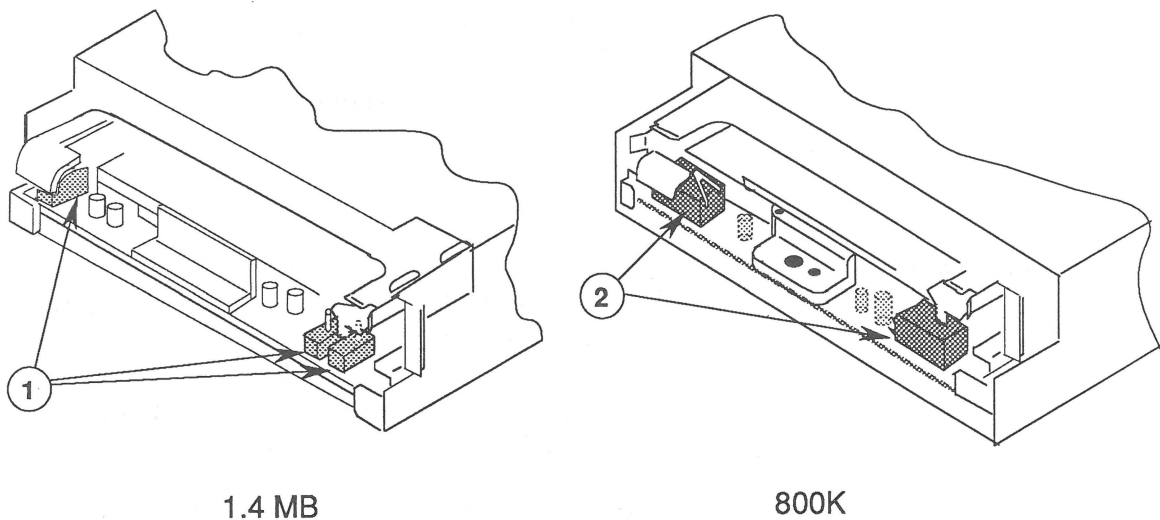

FIGURE 4
4. Check the microswitches located at the front of the drive. **The FDHD has three microswitches** (Figure 4, #1) aligned perpendicular to the front edge of the drive. The 400K and 800K drives have only two microswitches (Figure 4, #2) aligned parallel to the front edge of the drive.